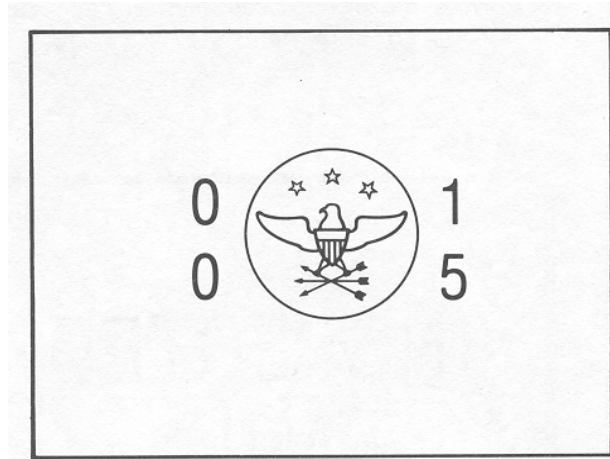
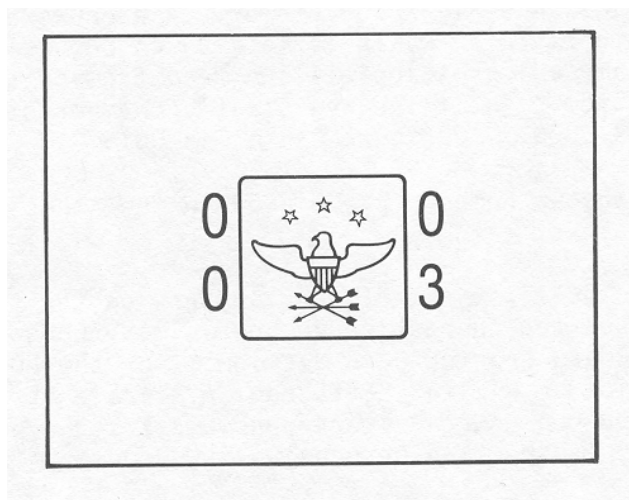

Figure 2-1. Partial inspection approval stamp.
Figure 2-2. Complete inspection approval stamp.
a. **Partial Inspection Approval Stamp.** The partial inspection approval (PIA) impression stamp is characterized by a circle surrounding an eagle in the center of the stamp (figure 2-1). As is implied by its name, further inspection is required on the food product. The PIA stamp is used on category I, (*at origin*) inspections. The PIA stamp does not indicate that the food products have been accepted by the government. The PIA indicates that the product meets specific contractual requirements.
b. **Complete Inspection Approval Stamp.** The CIA stamp has a square design surrounding an eagle in the center of the stamp (figure 2-2). This is easily distinguished from the PIA stamp, which has a circular design. The name of the stamp indicates that the inspection is complete and that the food has been accepted by the government. The CIA stamp is used on receipt inspections, (**Category II**) on delivery at purchase inspections. The CIA stamp is used during the final inspection of the food product prior to transfer of ownership from the contractor to the government. Acceptance on behalf of the government is normally accomplished by placing the CIA stamp impression on the contractor's manifest or invoice, which accompanies delivery of the food product.
b. When given a blank DOD PIA or CIA procurement stamp, the registration number of the stamp is located on both sides of the center design. The stamped impression will be read from bottom left to top left, to top right to bottom right. The registration number of the four-stamp impression in figure 2-2 and 2-3 is 0003. In figure 2-1 it is 0015.
(1) The first set of four numbers on the top line above the DOD insignia indicates the Inspection Responsibility Code (IRC). Inspection Responsibility Codes are found in Section II of the HQDA (DASG--VCP) letter, subject: Location of Military Personnel Available for Inspection and Services. The Surgeon General is responsible for the publication of this "location list." Inspection Responsibility Codes are as follows: